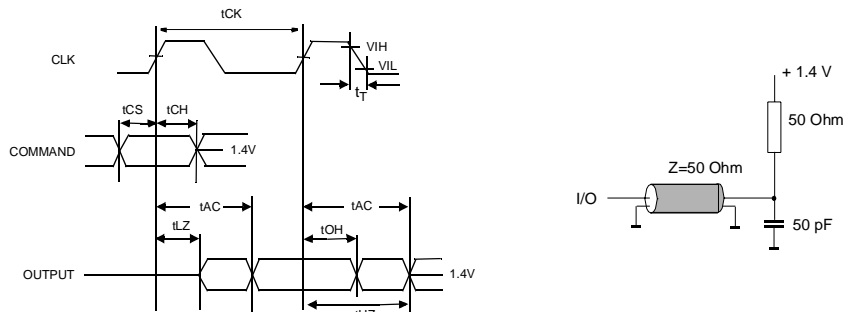

Figure 1.
2. AC timing tests have V_{IL} = 0.8V and V_{IH} = 2.0V with the timing referenced to the 1.4 V crossover point. The transition time is measured between V_{IH} and V_{IL}. All AC measurements assume t_T = 1 ns with the AC output load circuit shown in Figure 1.